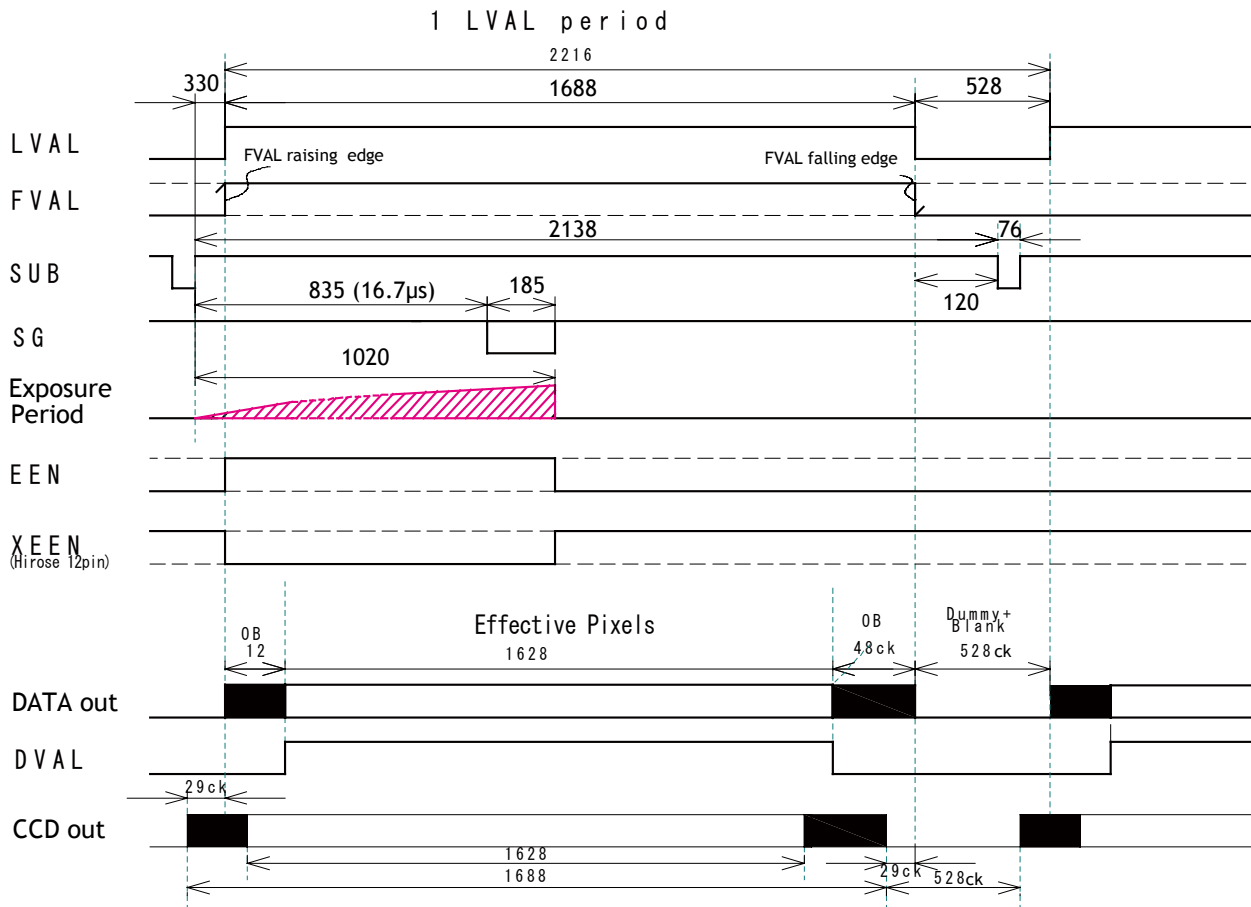
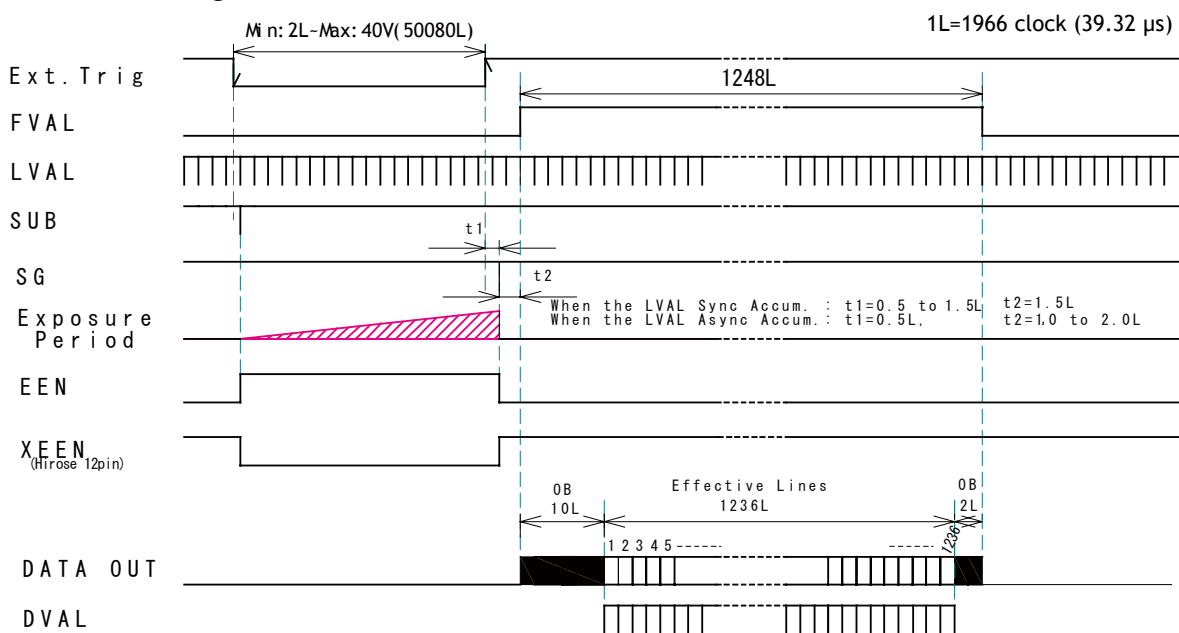
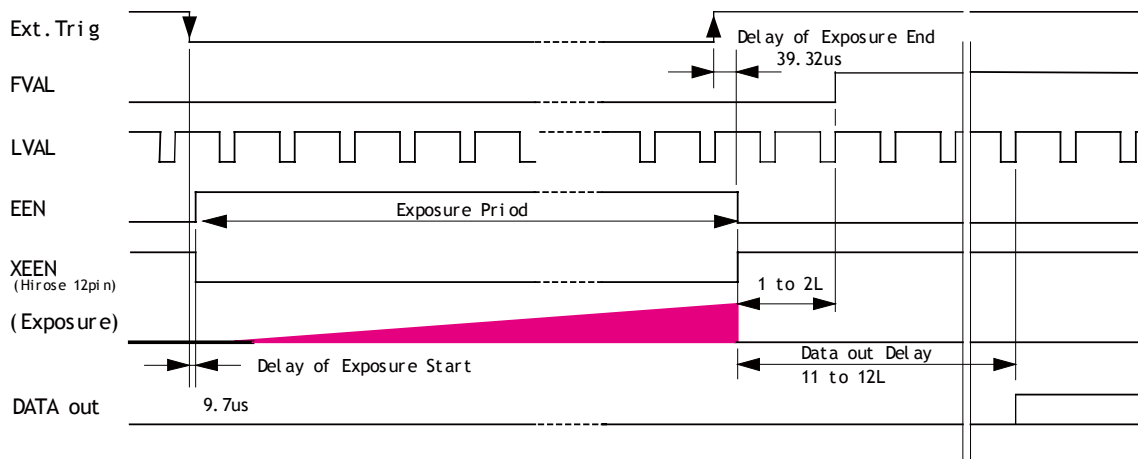

Fig. 31 Horizontal timing for V binning.
Fig. 35. Pulse Width Control.
Fig.37 Pulse Width Control LVAL ASYNC Details
For timing details, refer to fig.26. through fig. 31.
*For timing details, refer to fig27 . through fig35.*
In this mode the accumulation time is equal to the trigger pulse width. Here it is possible to have a long time exposure. The accumulation can be automatically set either LVAL synchronous or LVAL asynchronous in relation to FVAL and trigger timing. Refer to chapter 7.2.4. The maximum recommended exposure time is <2 seconds. The resulting video signal will start to be read out after the trigger's rising edge. For timing details, refer to fig.26 through fig.31 . and fig.35 through fig.37 .